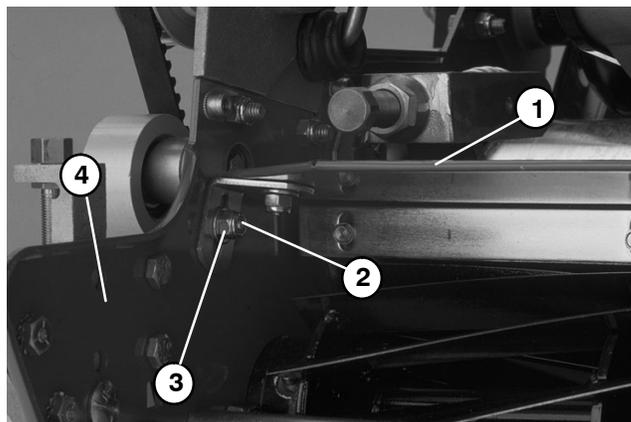

Figure 21
4. Loosen capscrews and nuts securing each end of the shield to the side plates. Adjust shield to the correct height and tighten fasteners (Fig. 21).